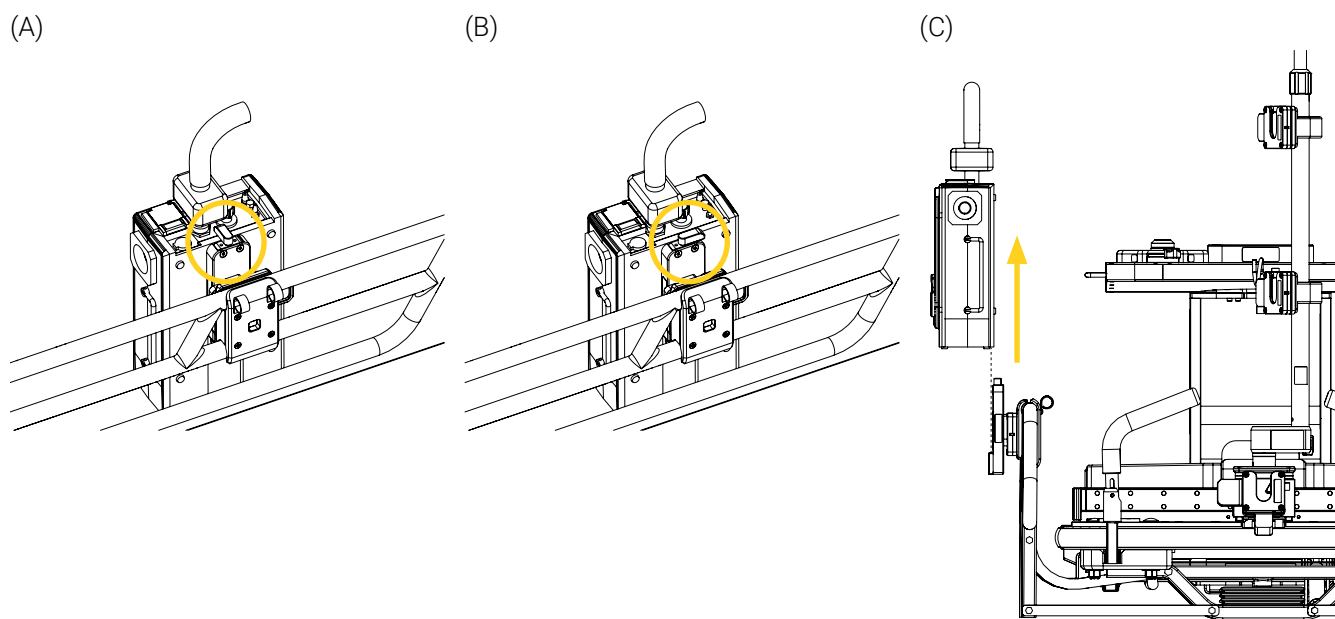

Figure 11: Removing the medical device from the mounting bracket
2. Pull the medical device out of the mounting bracket vertically (Figure 11).